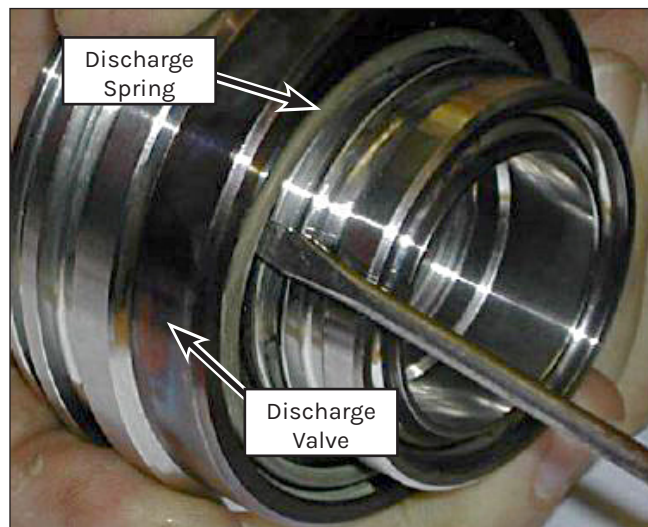

Figure 114: Discharge Spring and Valve Removal.
6. Insert a small screwdriver under the discharge spring (Figure 114). Carefully rotate the screwdriver until the spring releases from the groove.